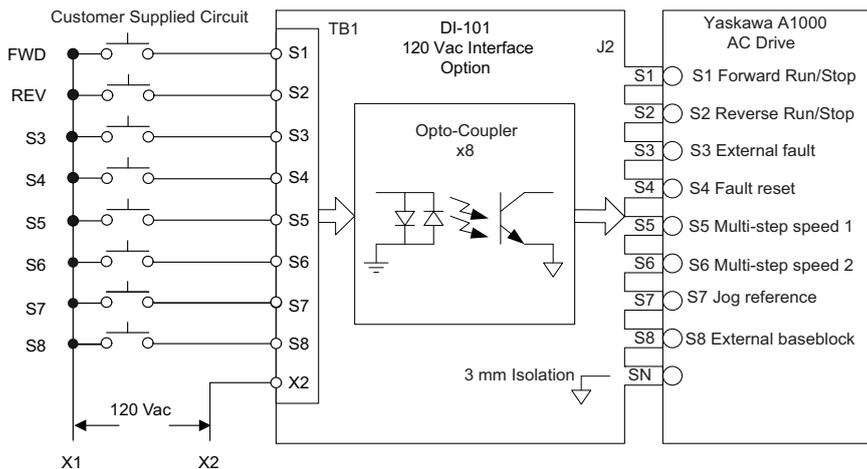

Figure 8 Wiring Diagram Example
7. Connect the customer wiring to the DI-101 option terminal block. Refer to **Figure 8** for a wiring diagram example showing customer interface circuitry. **Refer to Wire Gauges, Tightening Torques, and Crimp Terminals on page 20** to confirm that the proper tightening torque is applied to each terminal. Take particular precaution to ensure each wire is properly connected and wire insulation is not accidentally pinched into electrical terminals.